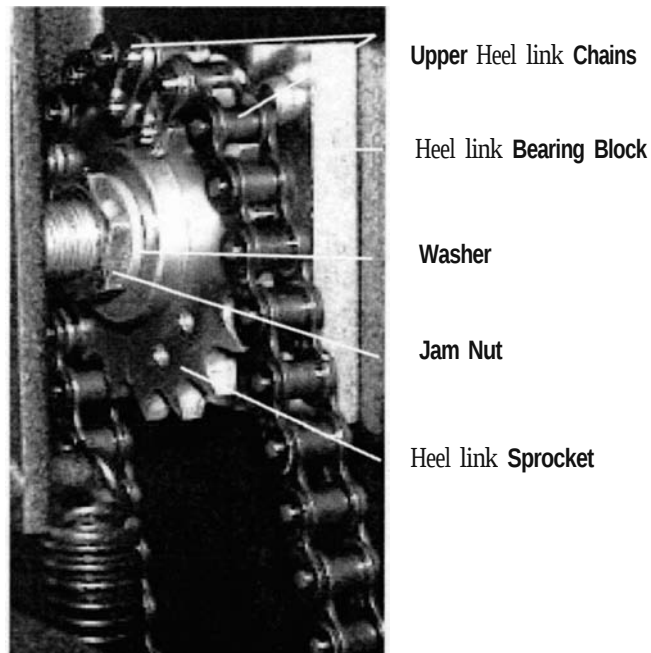

Figure 17: Upper Heel Link Chains
6. Remove the jam nut and washer from the heel link shaft (see Figure 17).